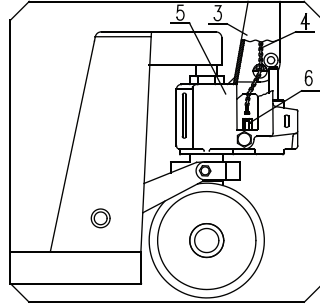
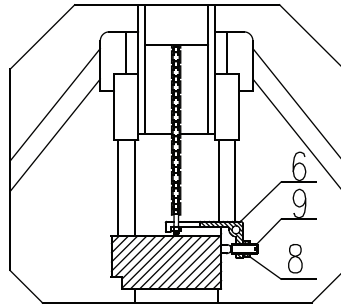

Fig. 2.
Fig. 4.
- See fig 2. Put the chain 4 of hand grip get across the middle hole of pin roll 1.
- Take screw nut which is at the end of chain 4 and hitch the groove of lever board 6. See fig 2 and fig 4.
- The screw 9 in fig 4 is used to adjust the truck situation. When the truck body drops immediately after it is lifted, you should turn the screw 9 a little counter-clockwise. And then try the truck again until truck body could lift normally. If the truck body couldn't drop after it is lifted, you should turn the screw 9 a little clockwise. And then try to operate truck again until the truck body could drop normally. The external hexagon nut 8 at screw 9 plays the locking function in the truck. So you should undo the external hexagon nut 10 before adjustment. And screw down the nut 8 after you finish the adjustment.